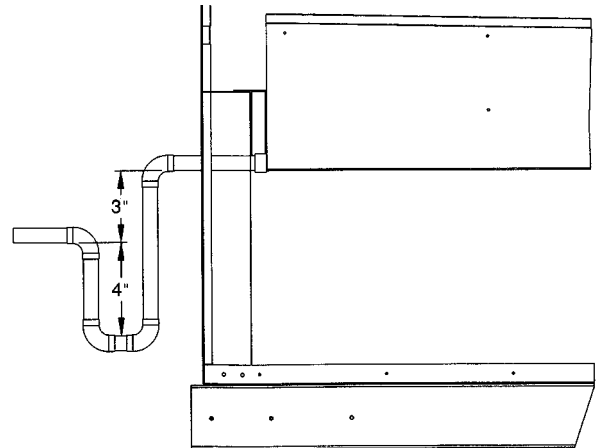

Fig. 12 — Condensate Drain Trap Piping Details (Typical Roof Curb or Slab Mount Shown)
Step 5 — Trap Condensate Drain — See Fig. 3-6 for drain location. Condensate drain is open to atmosphere and must be trapped. Install a trapped drain at the drain location. A trap at least 4-in. deep must be used. See Fig. 12. Trap must be installed to prevent freeze-up.